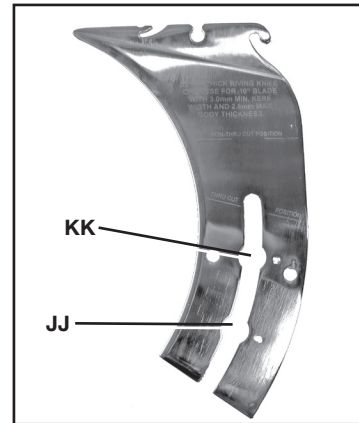
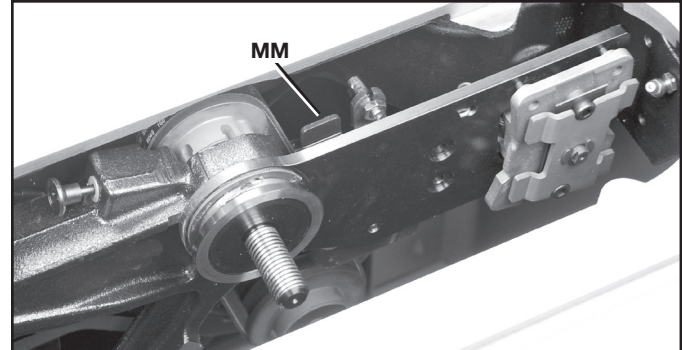

FIG. 30
FIG. 31
2. While holding handle, pull riving knife up until detent (JJ) Fig. 30 engages for the through-cutting position.
3. While holding handle, push riving knife down until detent (KK) Fig. 30 engages for the non-through-cutting position.
2. Push riving knife release lever (MM) Fig. 31 away from the blade and pull riving knife up to lower detent (JJ) Fig. 30 for the through-cutting position.
3. Push riving knife release lever away from the blade and push riving knife down to upper detent (KK) Fig. 30 for the non-through-cutting position.